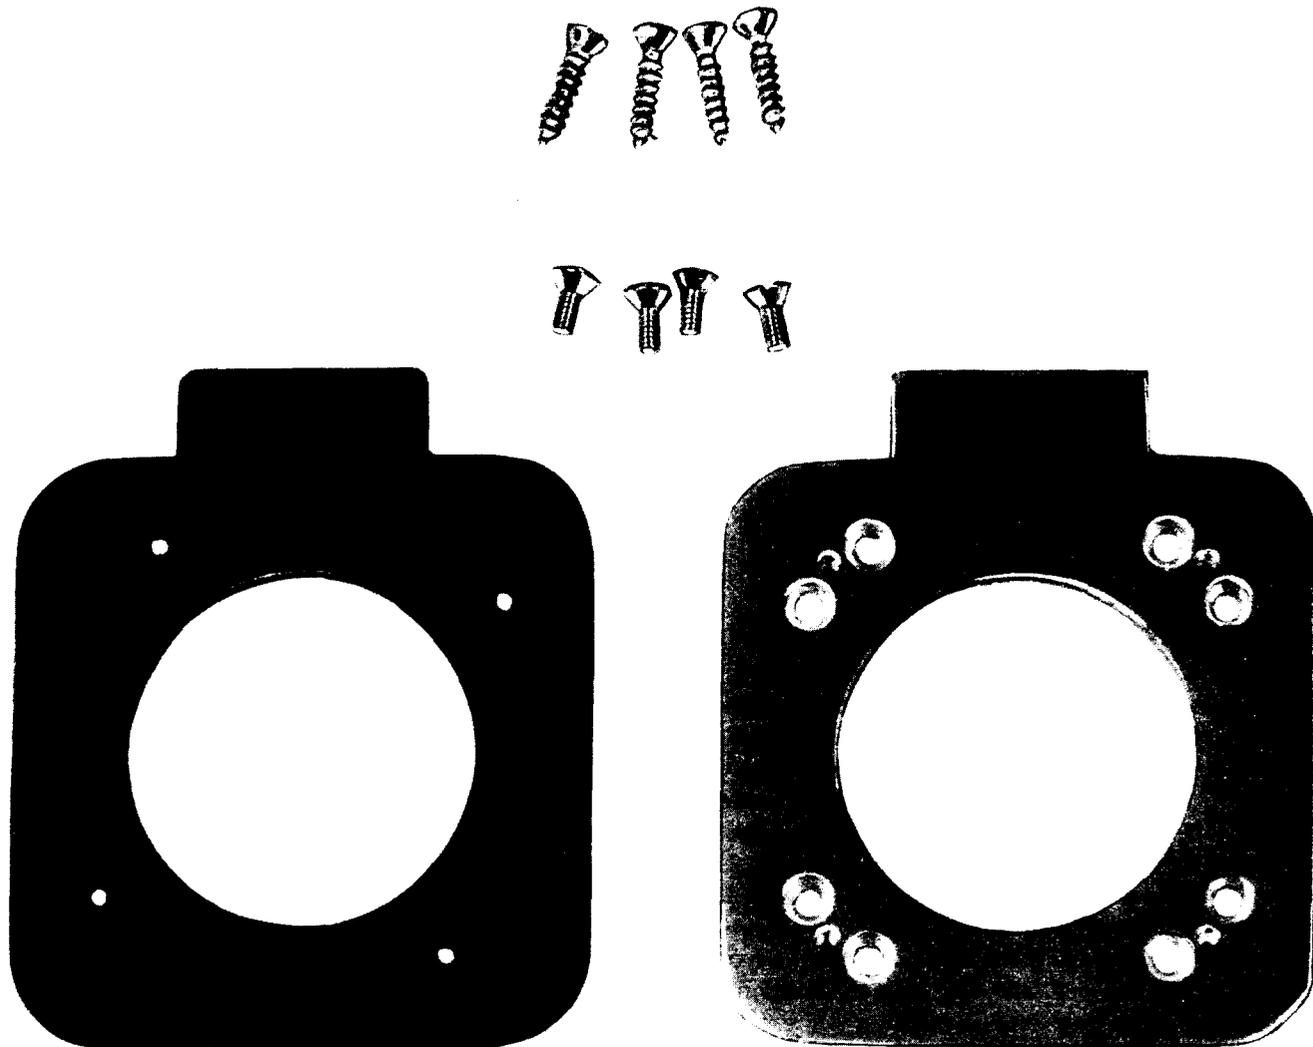

Fig. 12—B Adapter Plate
(h) Adapter, Plate, B (used to adapt the B weatherproof jack to a boat where the KS-8420 jack had previously been mounted, Fig. 12).
2.11 The B adapter plate (Fig. 12) is used to adapt the B waterproof jack to a boat where the KS-8420 jack had previously been mounted.